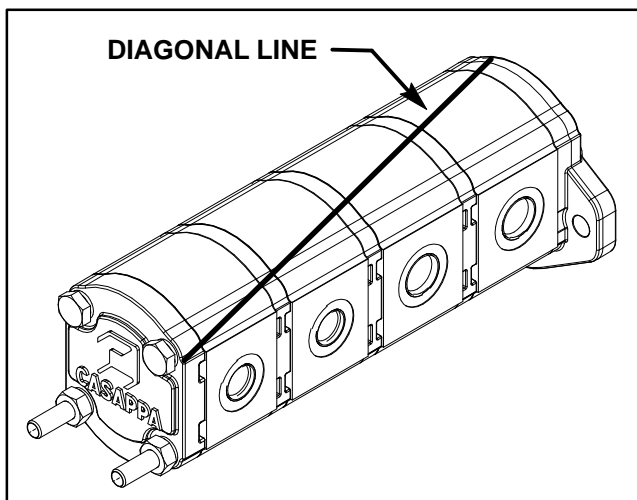

Figure 54
2. Use a marker to make a **diagonal** line across the gear pump for assembly purposes (Fig. 54).